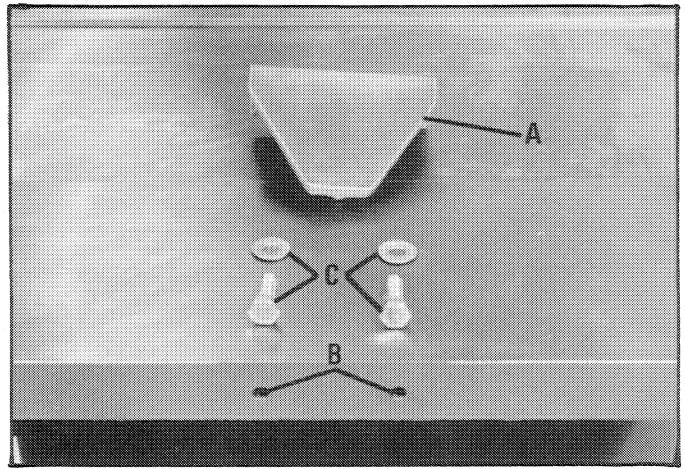

Fig. 12
The rip fence support bracket (A) Fig. 12, is to be mounted to the two holes (B) on the side of the right extension wing using two screws and washers (C). Use a straight edge to level the support bracket (A) to the extension wing before tightening screws (C) Fig. 12.